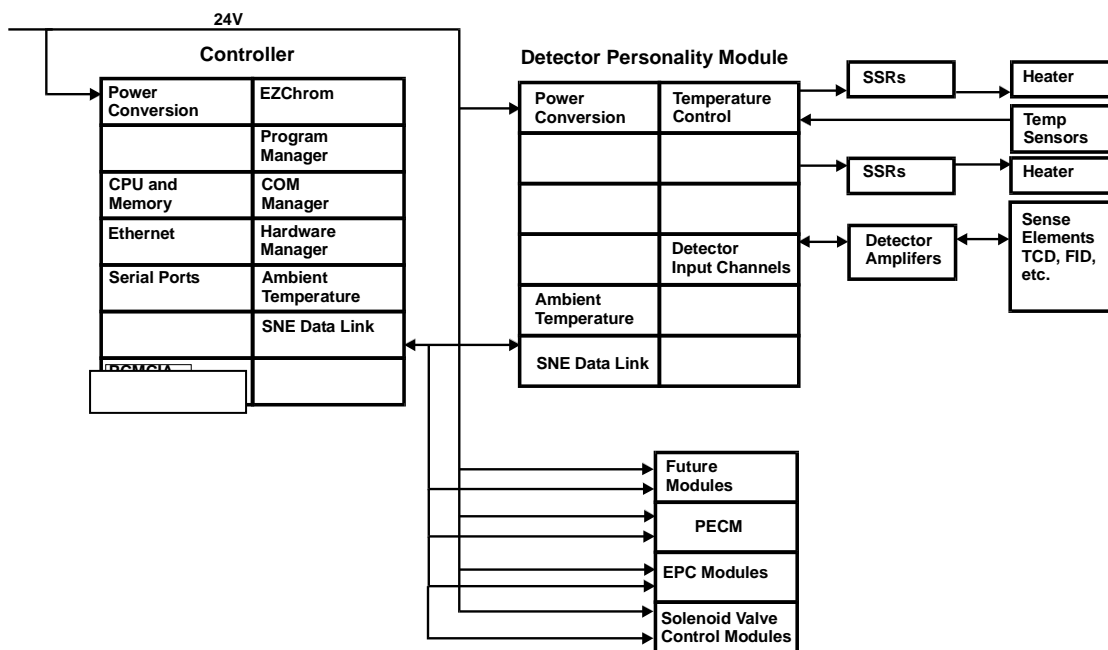
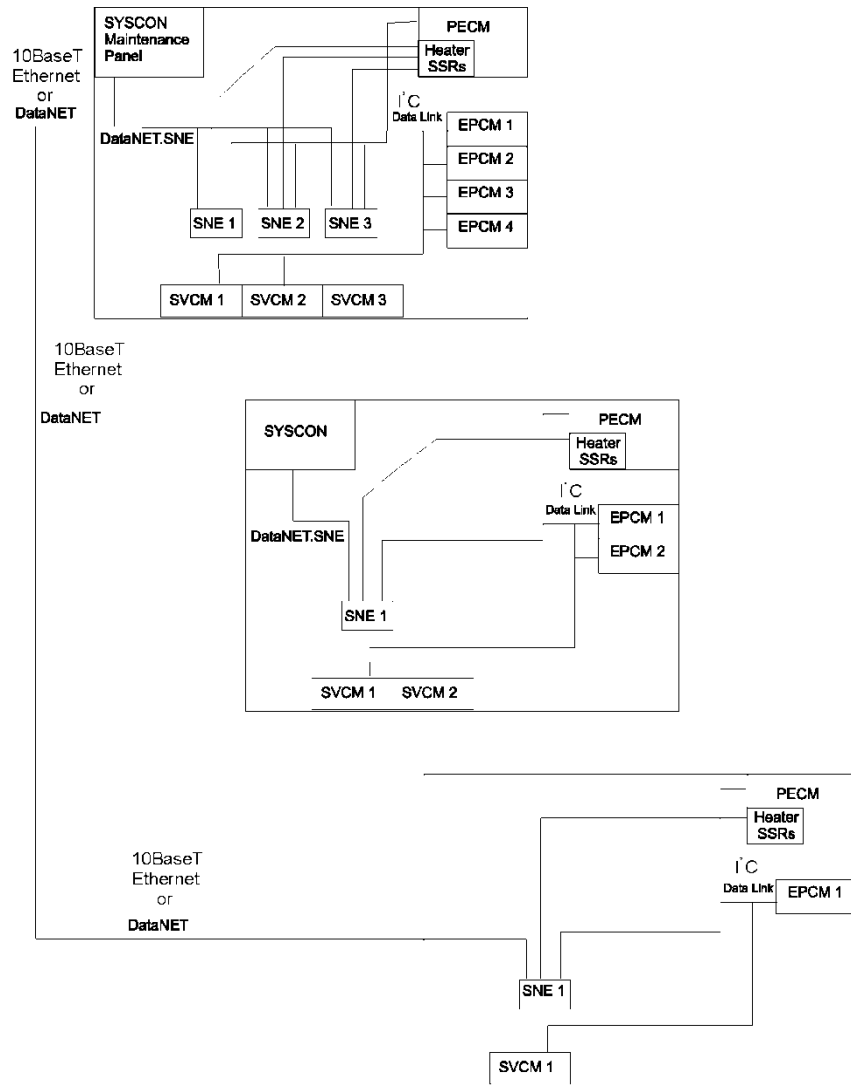
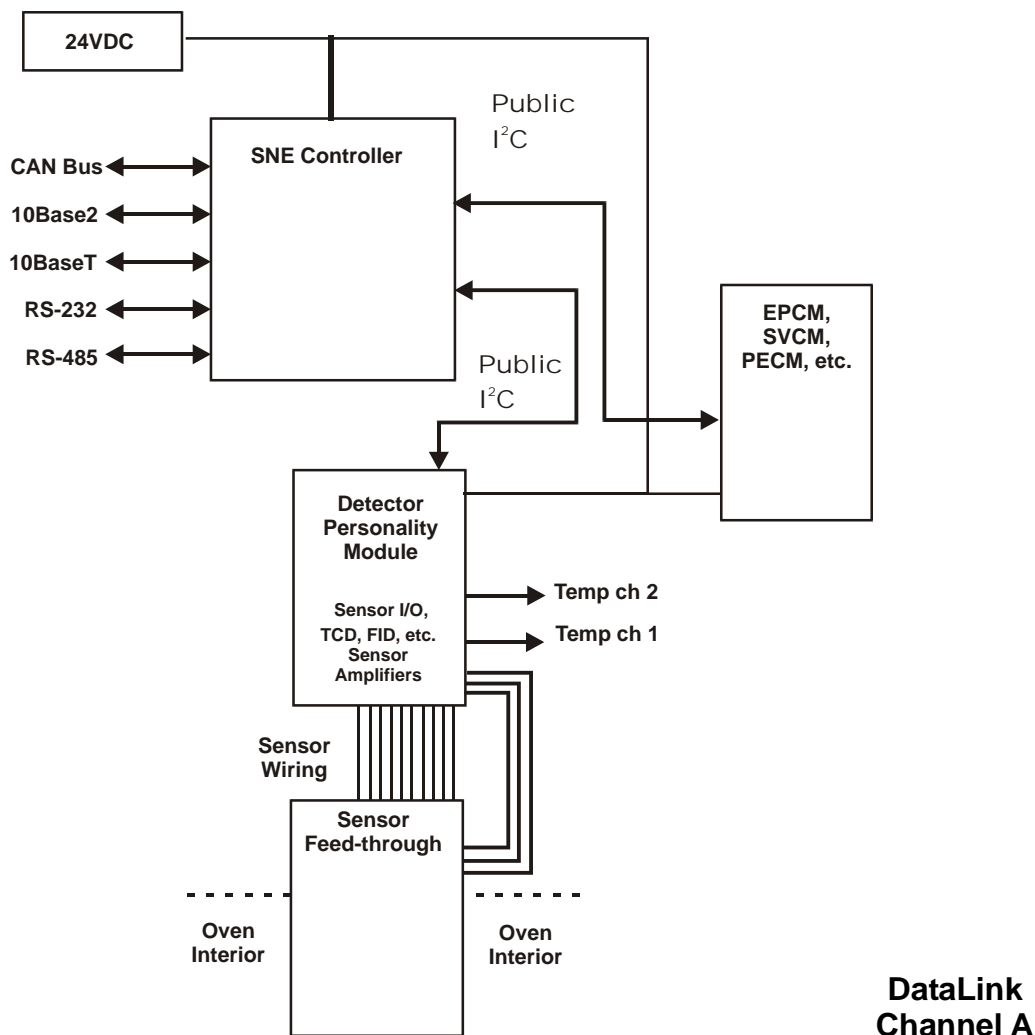

Figure 2-30 SNE Functional Block Diagram
Figure 2-31 SNE Module Connections - Example Configuration
Figure 2-32 SNE Interface Diagram
The SIB is equipped with several LEDs that relate useful information regarding the operating status different interfaces. These LEDs are shown in Figure 2-31 and described in Table 2-2. The SIB is also equipped with certain option switches, described below, that must be set appropriately for proper operation. Before installation, verify that all switches are set correctly. When replacing a SYSCON2 verify that the switch settings on the new board match the switch settings on the board being removed.
The Sensor Near Electronics (SNE) contains all the application programs required to perform a sample analysis. The SNE controls the sample analysis, acquires and processes data from detectors and controls and monitors the analytical operating environment. A total of up to three SNEs can be installed within the electronic enclosure. See Figure 2-30.
The SNE is located in a protective housing in the Electronic Enclosure (EC). The housing can be the original closed metal cage or the open cage that is the current version of the housing. See Figure 2-30.
The DPM contains all signal processing circuitry to decode and digitize the analysis signal from the detector. There are a variety of DPM types depending on detector type; see Figure 2-30 and Figure 2-32.
The SNECON has 2 miniature coax connectors on the top of the SNE, see Figure 2-31 and Figure 2-32. These connectors are 10Base2 and are utilized ONLY if legacy SYSCON is installed. In SYSCON2 connector J10 (RJ-45) is used instead. The mini-coax connectors (J5 & J50) are interchangeable. One of these connectors will connect to one of the two mini-coax Ethernet connectors on the Wiring Distribution Board (WDB). If only one SNE is used, the second connector on the SNE simply returns and plugs into the second connector on the WDB. If more than one SNE